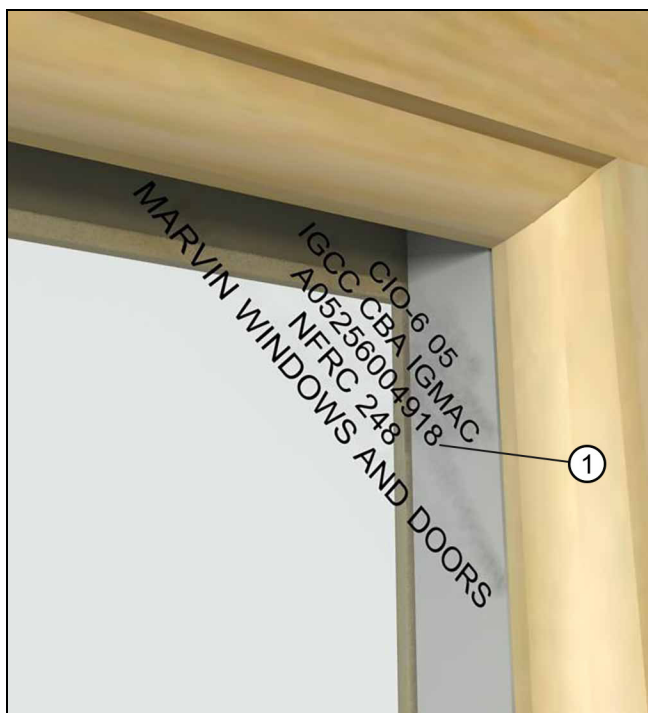

Figure 7
1. Remove the protective packaging from the unit and dispose/recycle properly. Inspect the unit for any hidden damage and report immediately to your sales representative. Provide the customer service number or glass part number etched on one of the top corners of the glass. See Figure 7.